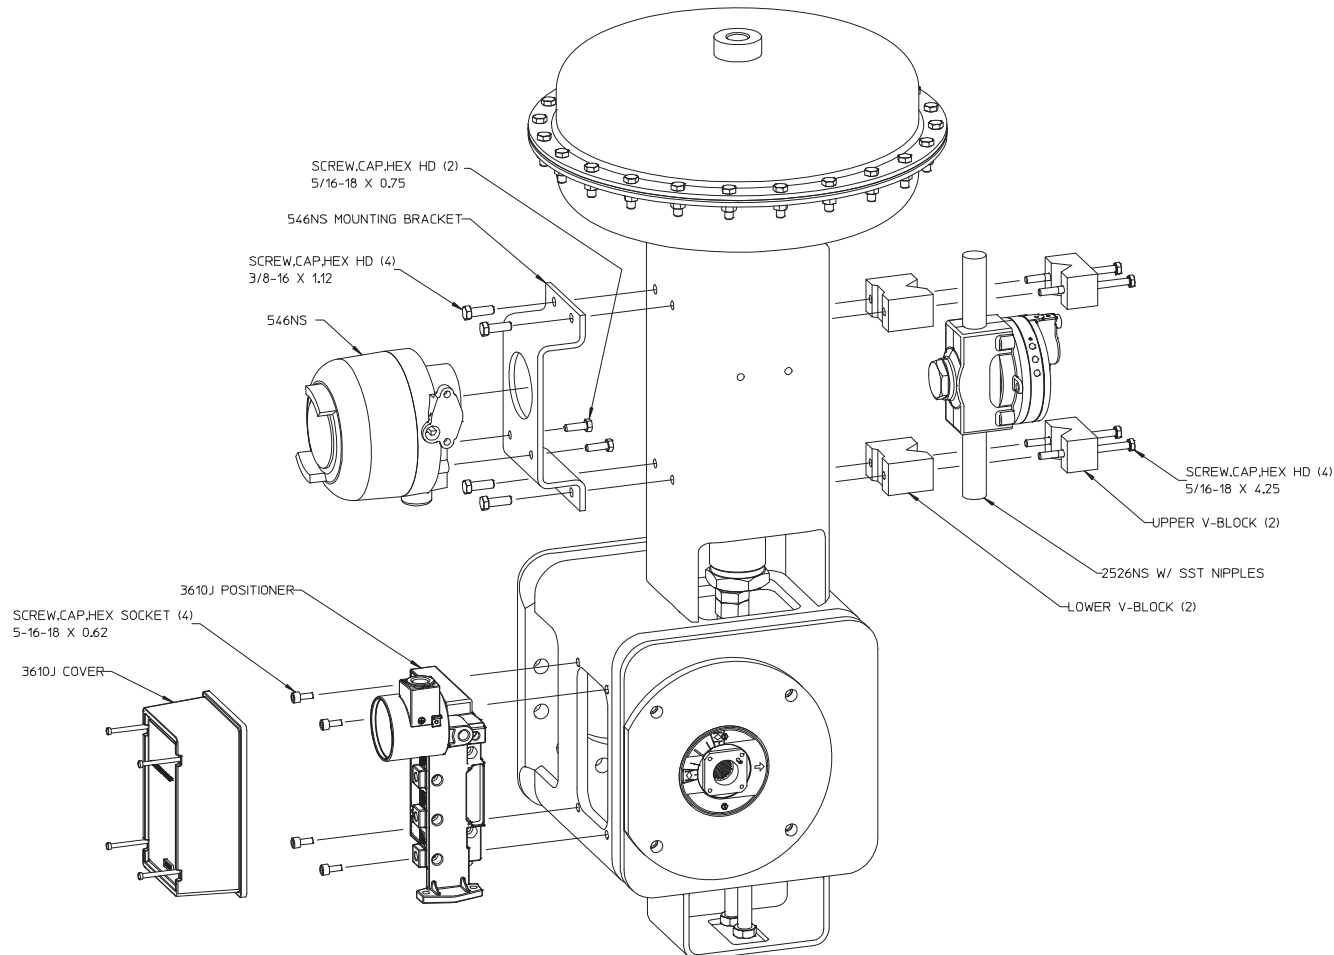

Figure 6. Accessory Mounting – Fisher 546NS, 2625NS, and 3610J
Fisher 3610J Mounting -- Attach the 3610J positioner to the actuator box with 5/16-18 x 0.62 cap screws as shown in figure 6. Apply thread locking adhesive, medium strength, (key 77) to the 5/16-18 cap screws and tighten to 23 N•m (17 lbf•ft) with a 1/2 inch wrench.